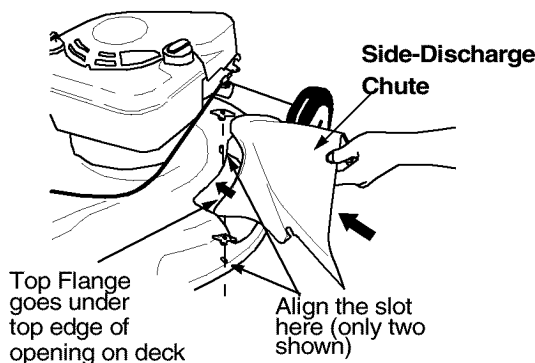

Figure 7
- Place the side-discharge chute on the deck (in place of the mulching cover) so that the top flange on the discharge chute goes under the top edge of the opening on the deck. See Figure 7.
- Align the three slots on the chute with the hardware slots on the deck. See Figure 7.